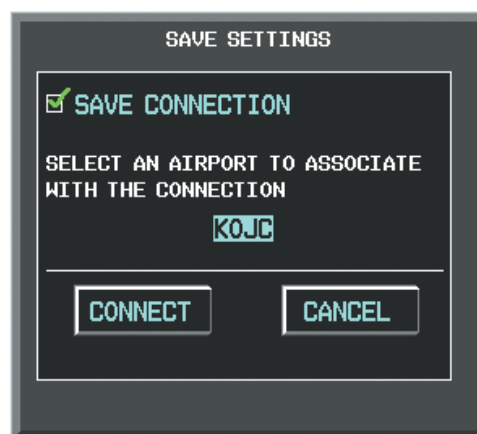

Figure 8-112 Save Connection
- a) Press the **ENT** Key. A checkmark is placed in the checkbox and the cursor moves to the airport field as shown in Figure 8-112.